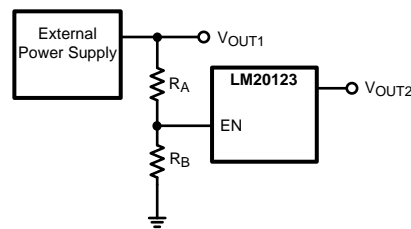

Figure 29. Sequencing LM20123 with Precision Enable
The precision enable (EN) and power good (PGOOD) pins of the LM20123 can be used to address many sequencing requirements. The turn-on of the LM20123 can be controlled with the precision enable pin by using two external resistors as shown in Figure 29.